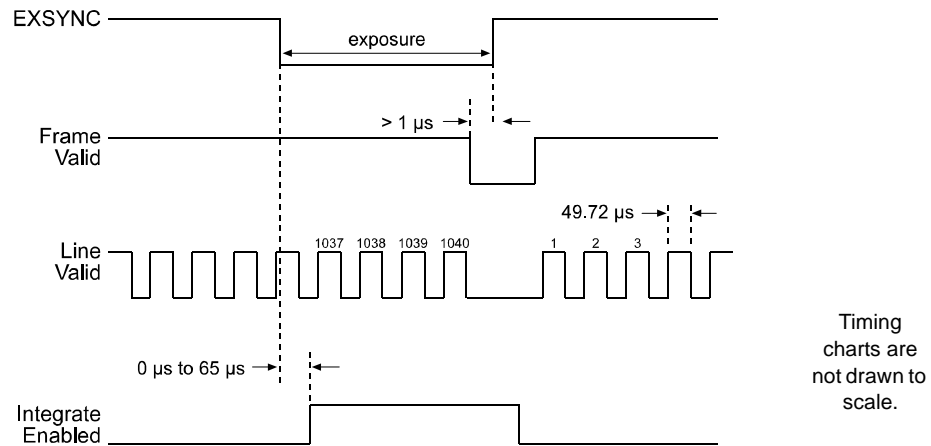

Figure 3-4: ExSync, Level-controlled Mode - Exposure Start with Frame Valid High
- In case one (see Figure 3-4), the falling edge of ExSync occurs while the camera is transmitting a previously captured frame, that is, when frame valid is high. This will occur when the frame rate is high.
If the ExSync signal falls while frame valid is high as shown in Figure 3-4:
As shown in Figure 3-4, FVAL **must** be low for at least 1  $\mu\text{s}$  before the ExSync signal rises.